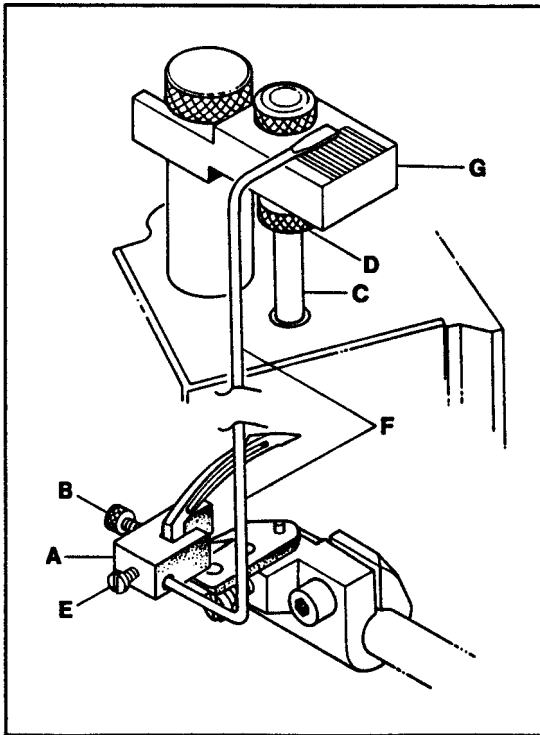
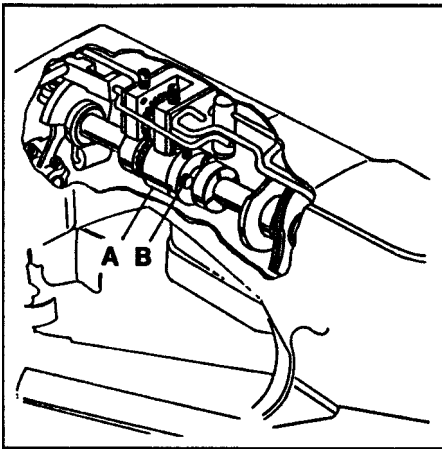

FIG. 9
FIG. 10
Attach the looper clamp and height gauge (A, Fig. 9) to the heel of the looper by tightening screw (B). Turn the handwheel slowly in a clockwise direction until needle bar (C) touches stop screw (D). Loosen screw (E) and set synchronizing gauge rod (F) so the flat end is on one of the lines in the center of the block (G). Tighten screw (E).
Turn the handwheel in the opposite direction until the needle bar touches stop screw (D, Fig. 9). Synchronizing rod (F) should come to the same line on block (G). The difference must not exceed one line.
If the setting cannot be achieved, main shaft coupling (A, Fig. 10) must be repositioned. Remove the crank chamber cover and gasket. Loosen the three coupling screws (B). If synchronizing rod (F, Fig. 9) moves more to the right while the handwheel is rotated in a clockwise direction, the looper is too fast and the main shaft should be retarded. If the rod moves more to the right when the handwheel is rotated in a counterclockwise direction the looper is too slow and the mainshaft should be advanced. Tighten screws (B, Fig. 10).